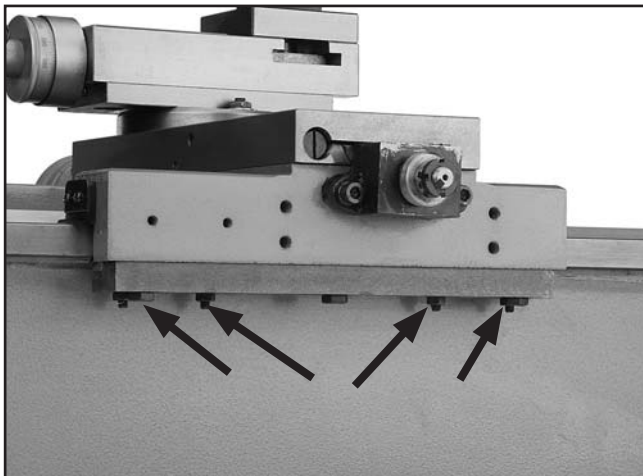

Figure 84. Saddle gib adjustments.
1. Hold the set screws with a hex wrench and then loosen the four hex nuts found at the bottom rear of the cross slide. Back each hex nut off one full turn (see **Figure 84**).